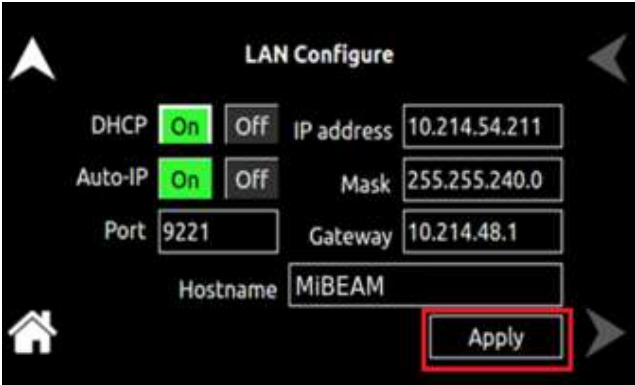
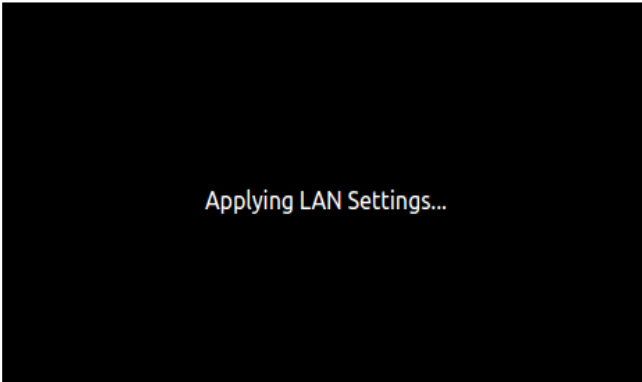

Figure 10-193. LAN Screen – Apply
Figure 10-194. LAN Screen - Applying LAN Settings
- **Apply:** Applies the LAN settings to the supply. Refer to Figure 10-193 and Figure 10-194.